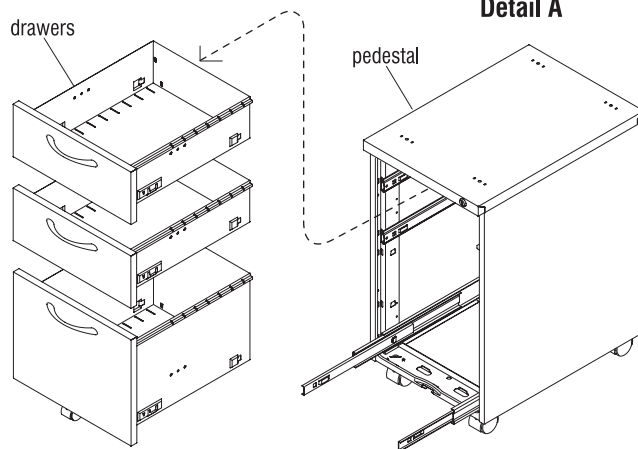

Figure 2
4. Empty the contents of file drawers and open drawer until suspension is fully extended (Figure 2).
7. The drawer will now slip free from the front connections by pulling the drawer evenly at a slight angle upwards, then pull forward to disengage the rear connection (Figure 2).